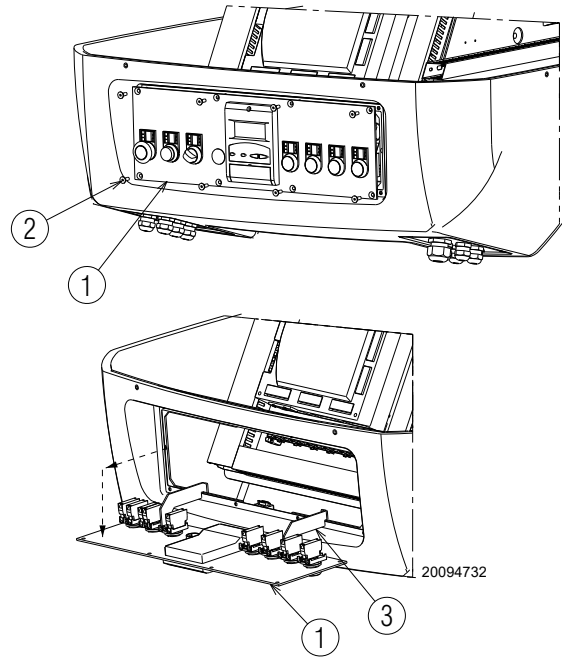

Fig. 33
- extract the control panel 1) and turn it 90°, hooking it with the brackets 3) in the profile of the electrical panel as shown in Fig. 33;